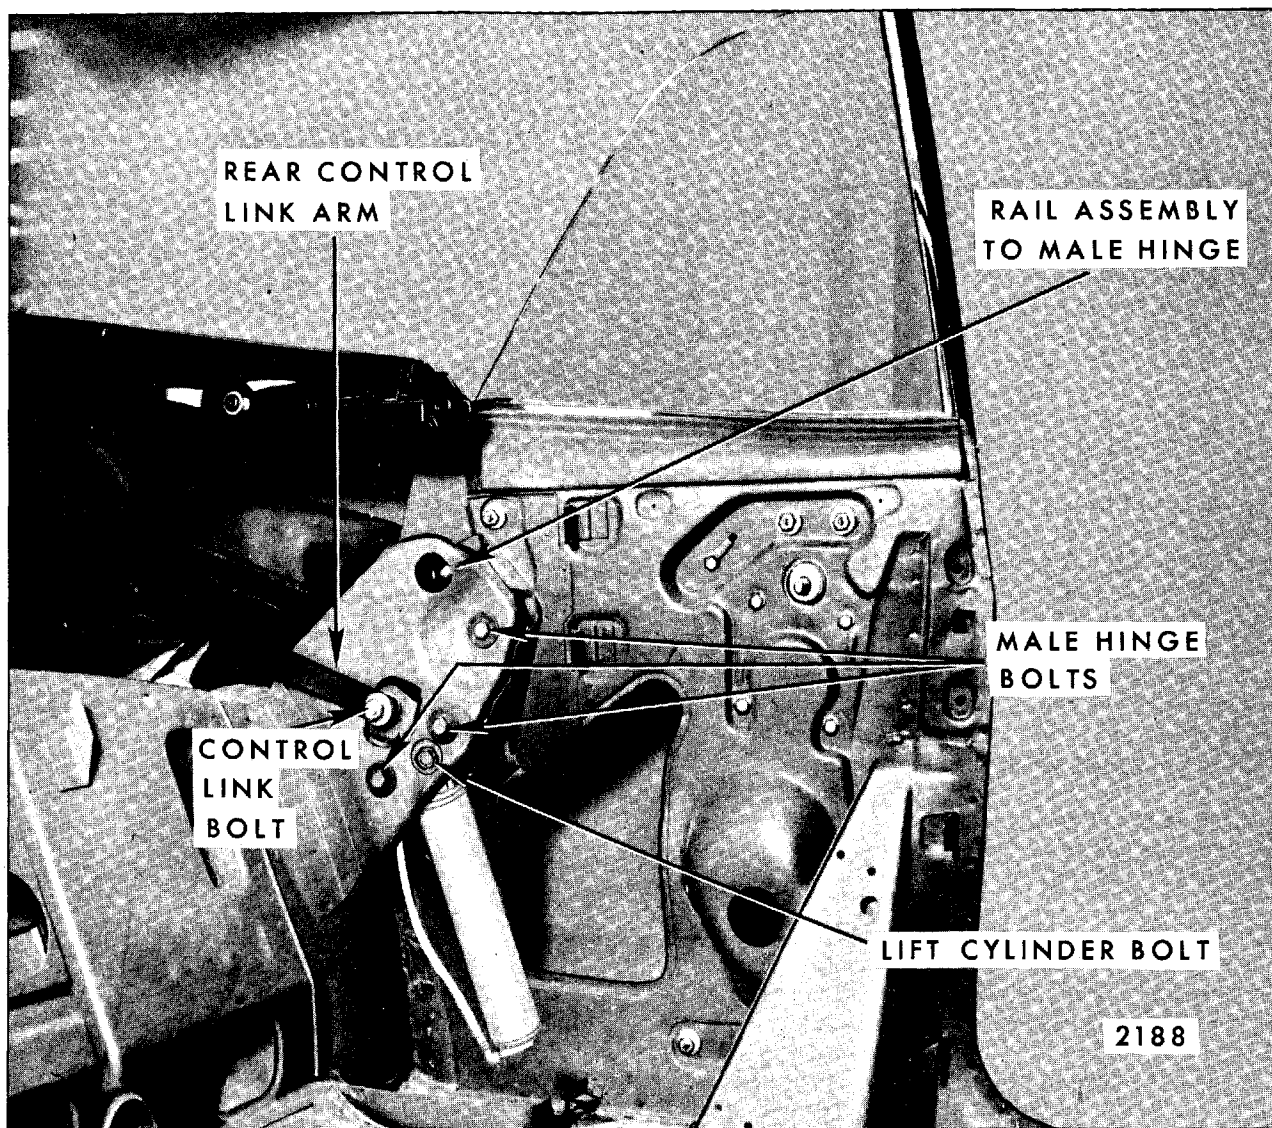

Fig. 6-69—"A" Body Hydraulic Lift Cylinder Attachment
6. Remove attaching nut, bolt, bushing and washer from upper end of cylinder rod, Figures 6-69 and 6-70.